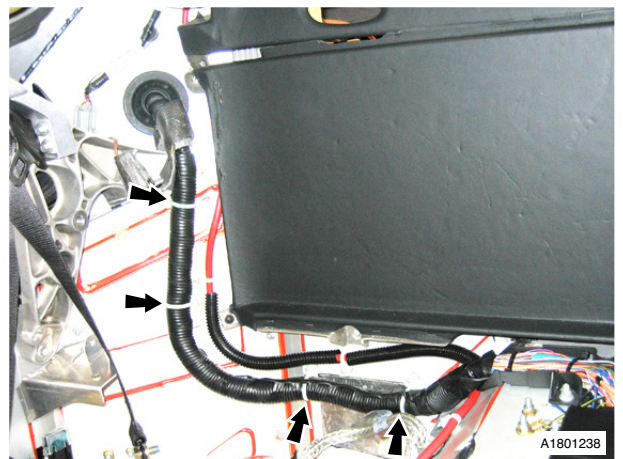

Fig. 23
58. Remove RH harness clips (x4) (see Fig. 23).